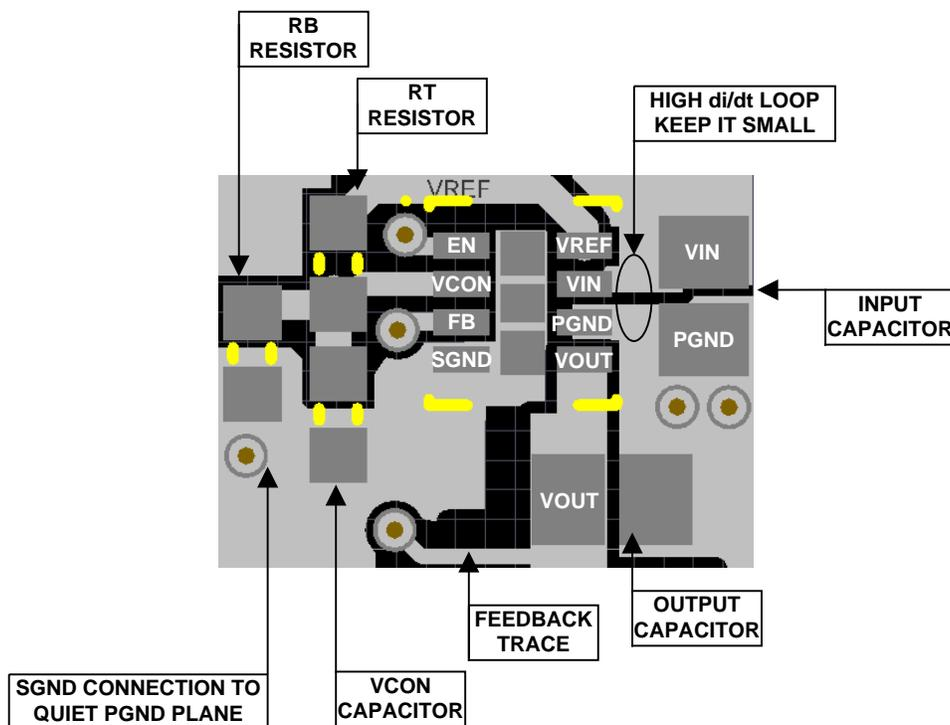

Figure 10. Example Top Layer Board Layout
The LMZ10501 integrates the inductor and simplifies the DC-DC converter board layout. Refer to the example layout in Figure 10. There are a few basic requirements to achieve a good LMZ10501 layout.
- 2. Place the  $V_{CON}$  filter capacitor  $C_{VC}$  and the  $R_B$   $R_T$  resistive divider as close as possible to the  $V_{CON}$  and SGND terminals.** The  $C_{VC}$  capacitor (not  $R_B$ ) should be the component closer to the  $V_{CON}$  pin, as shown in Figure 10. This allows for better bypass of the control voltage set at  $V_{CON}$ .